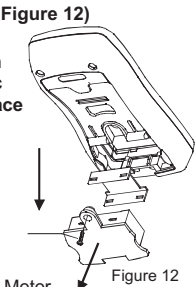

Figure 12
C. Replacing the Battery (See Figure 12)